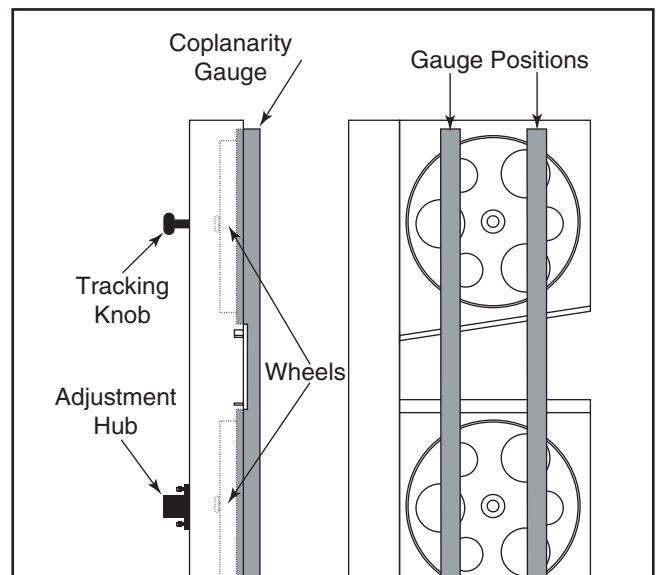

Figure 65. Checking for coplanarity.
4. Place your coplanarity gauge up against both wheels in the positions shown in **Figure 65**.